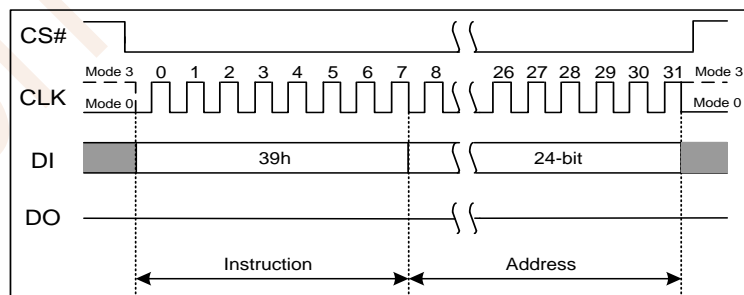

Figure 7.49 Individual Block/Sector Unlock Instruction(SPI Mode)
To unlock a specific block or sector as illustrated in Figure 7.49, an Individual Block/Sector Unlock command must be issued by driving CS# low, shifting the instruction code “39h” into the Data Input (DI) pin on the rising edge of CLK, followed by a 24/32-bit address and then driving CS# high. A Write Enable instruction must be executed before the device will accept the Individual Block/Sector Unlock Instruction(Status Register bit WEL= 1).